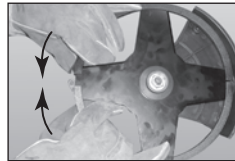

Fig. 5C
3. Refer to figure 5C and 5D, and assemble in the opposite way to cover the blades.